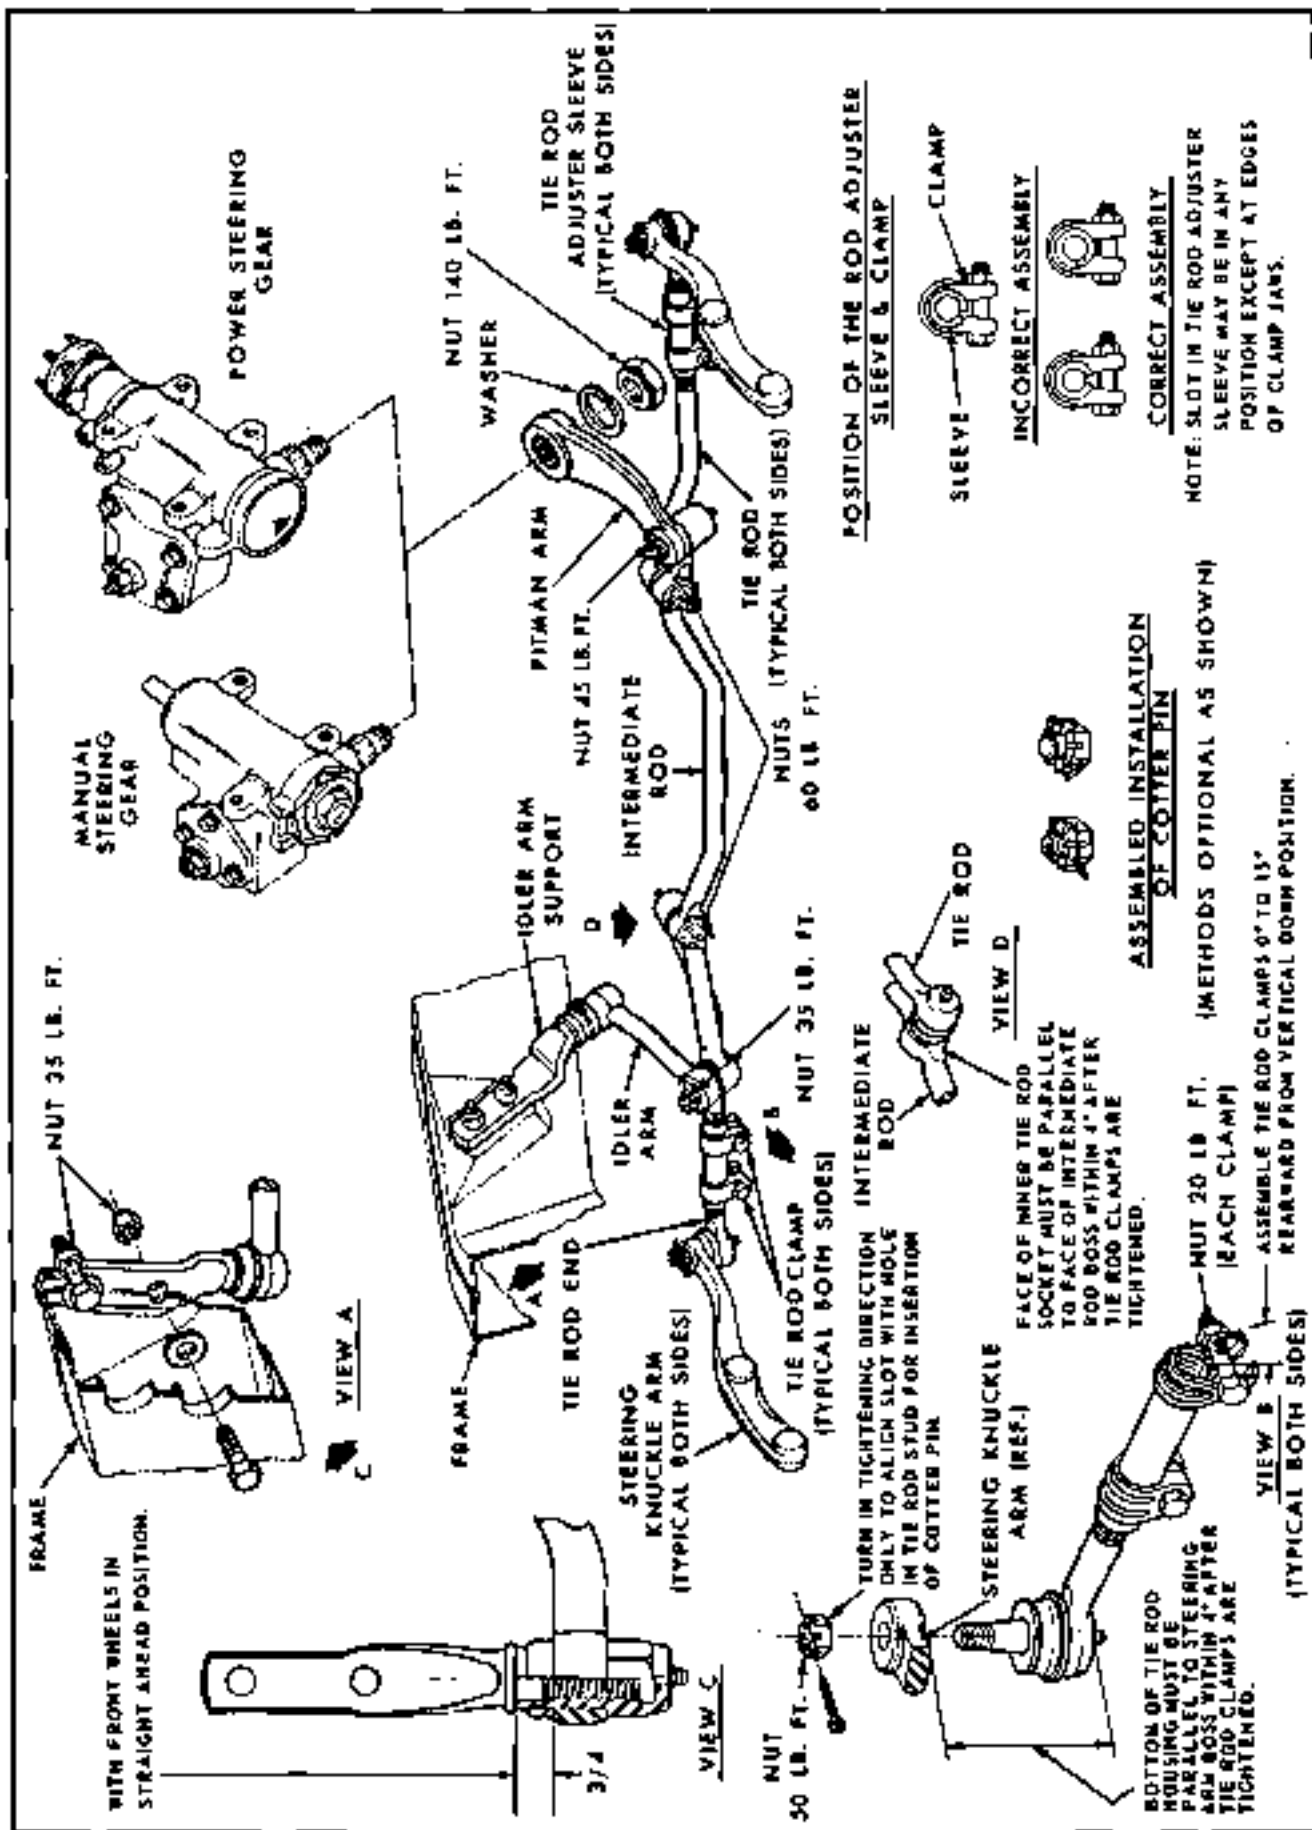
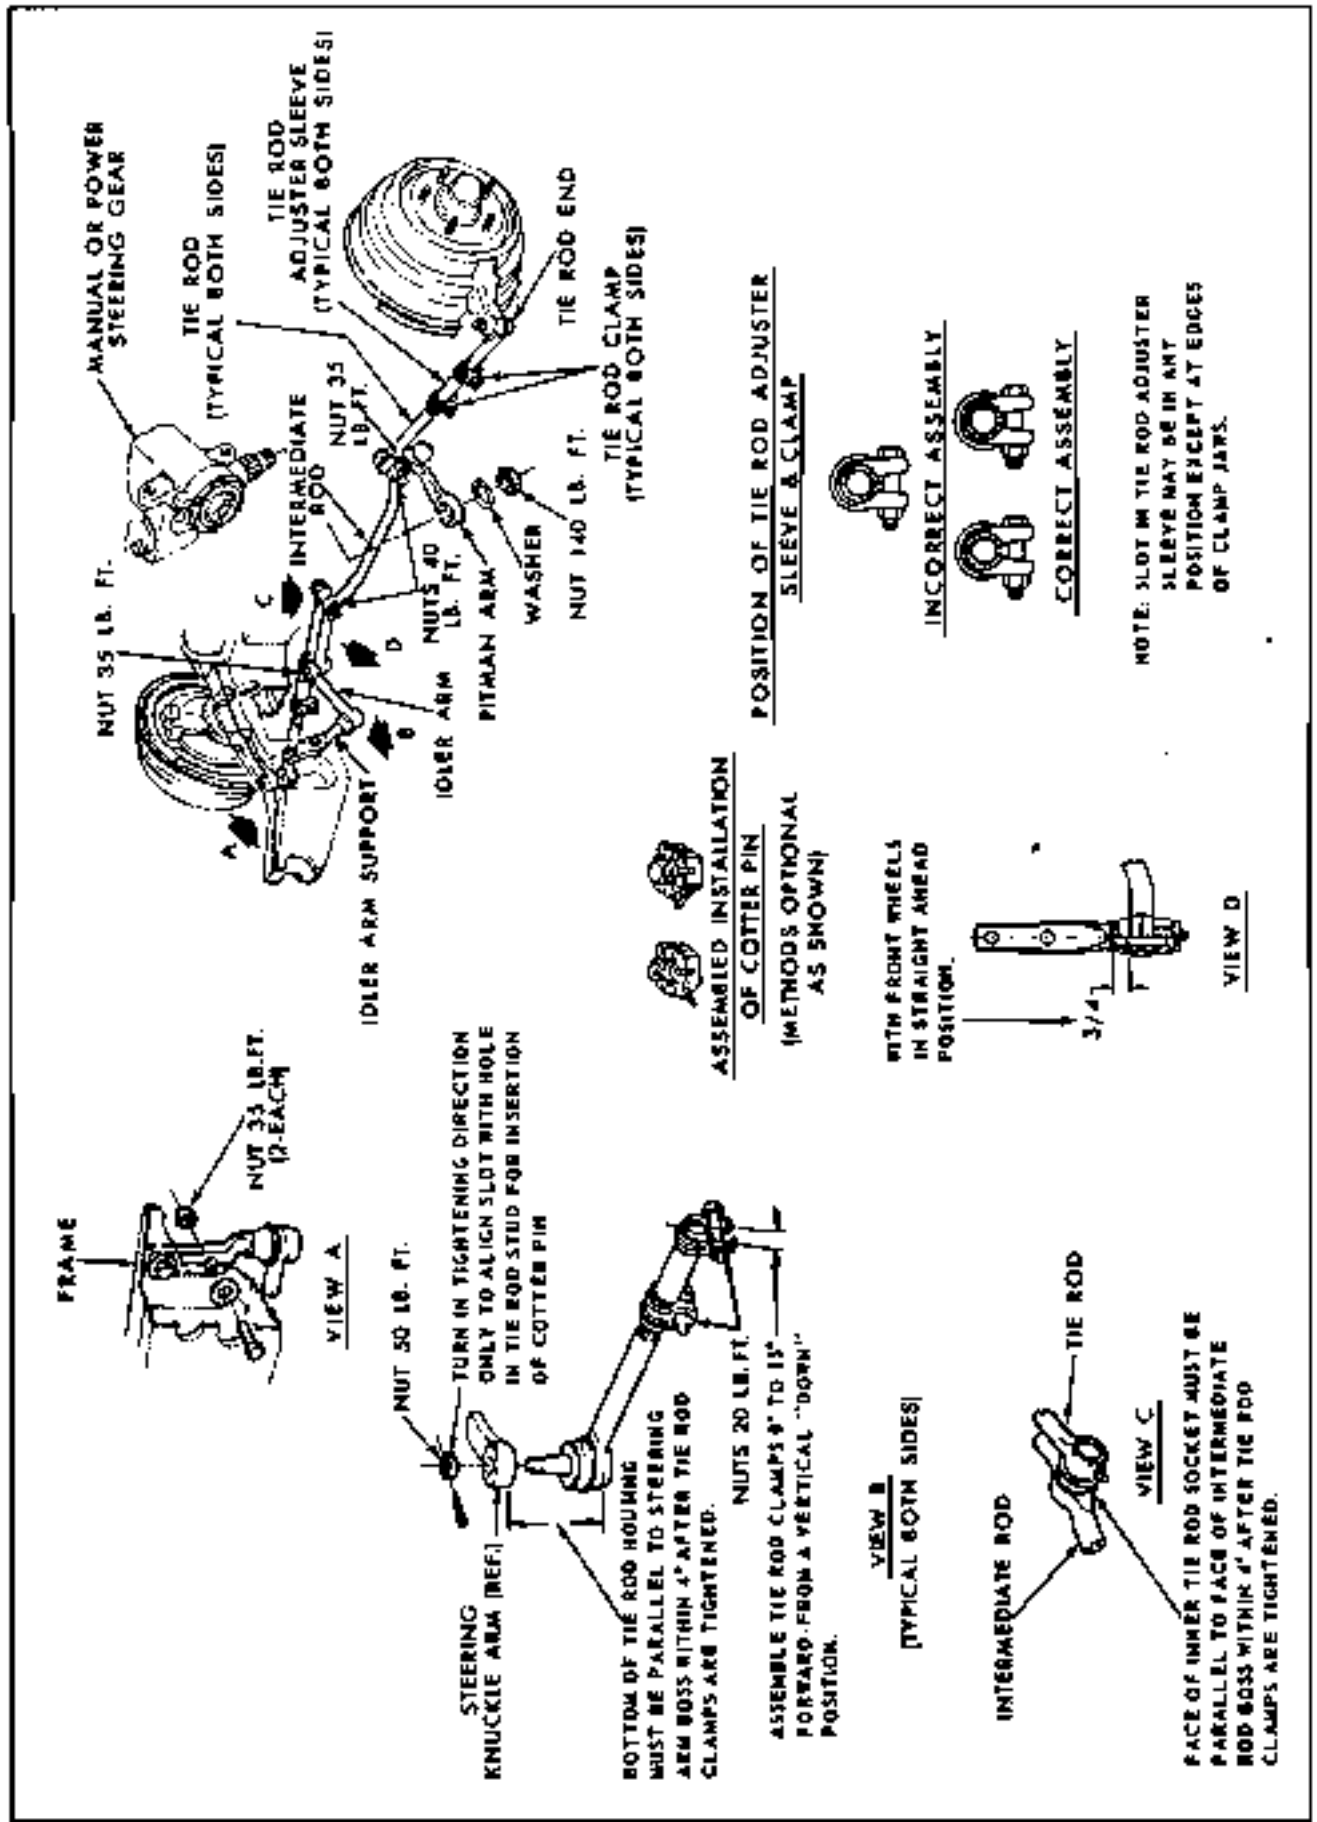
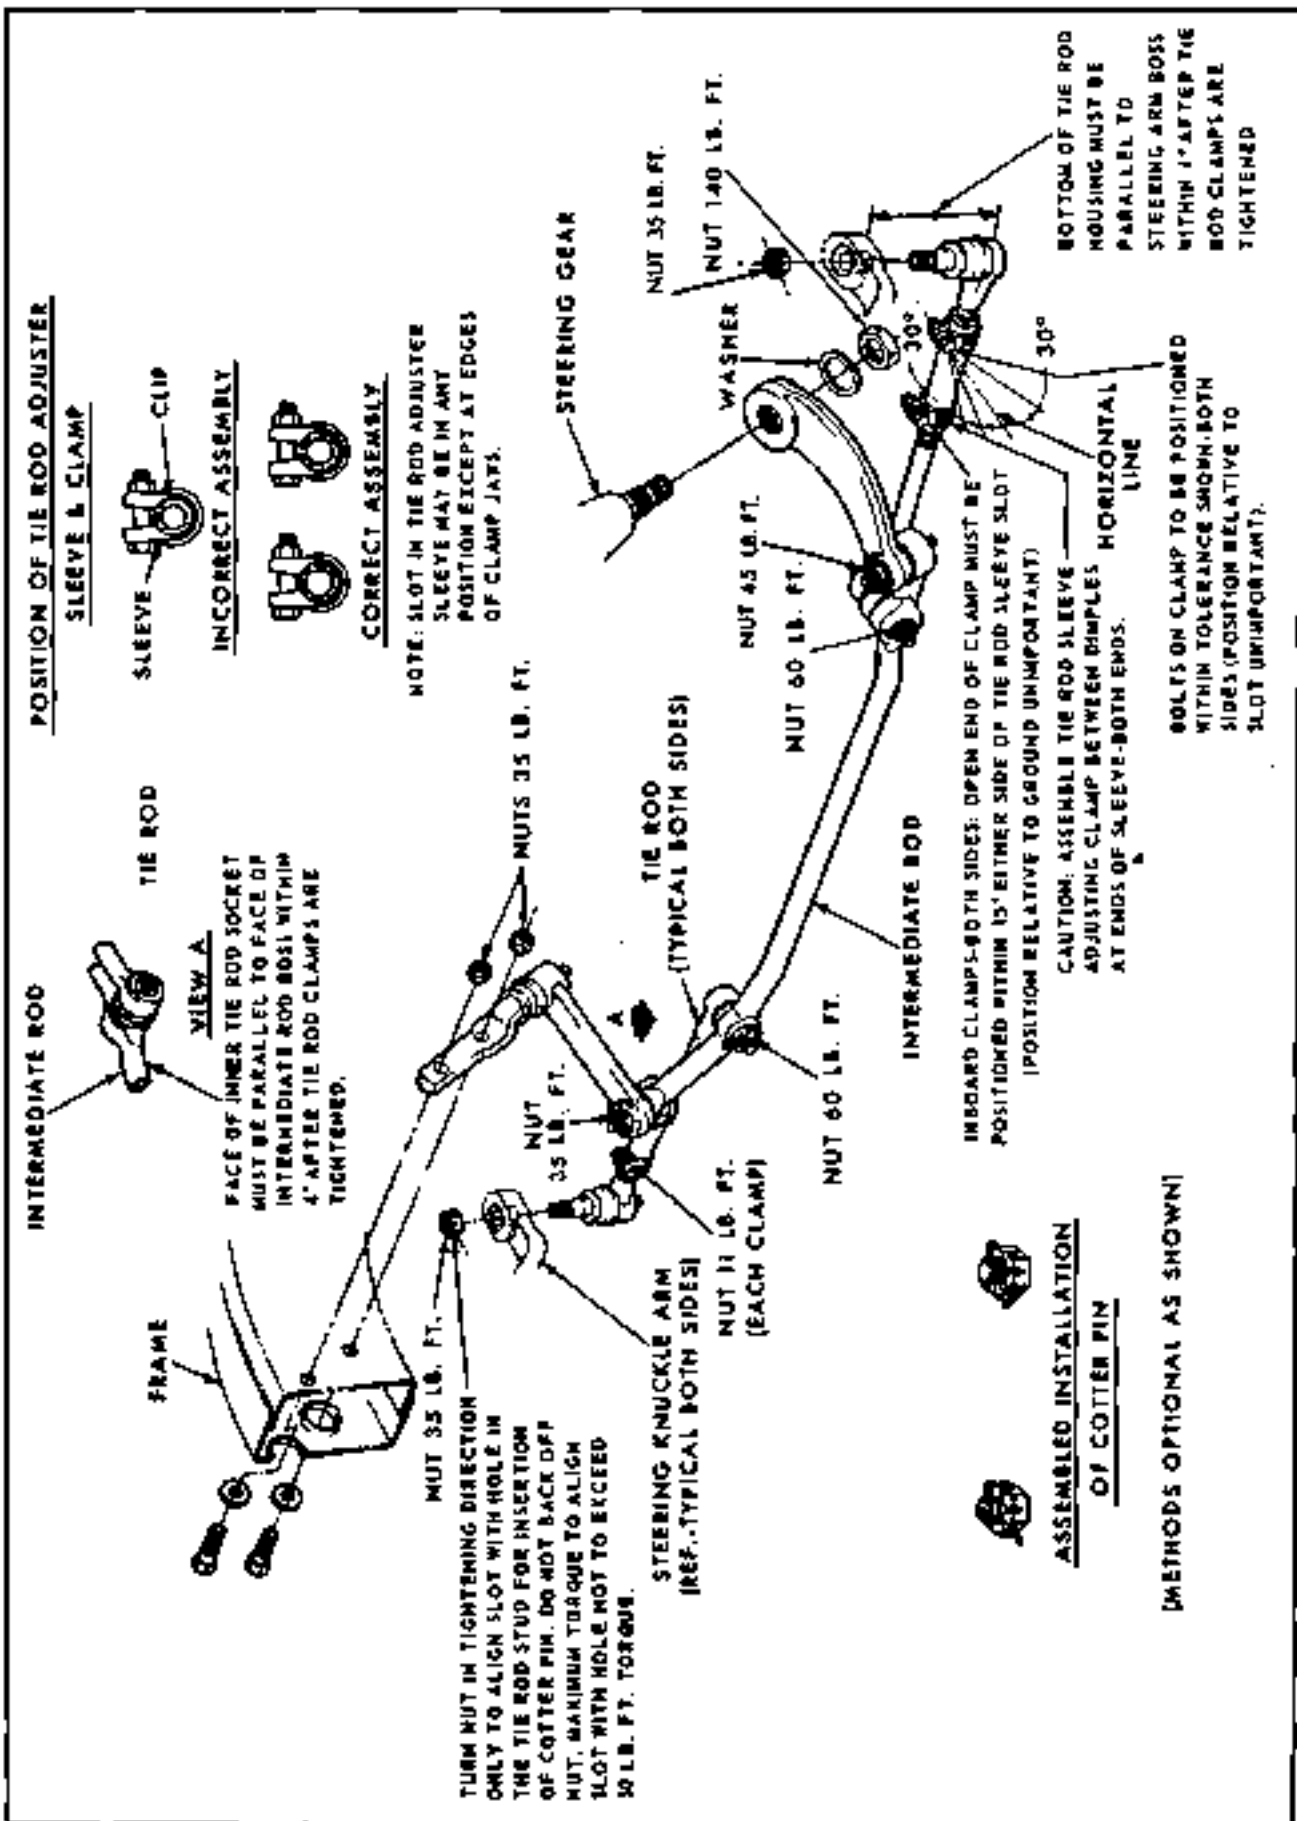

Fig. 9-43 Pontiac Steering Linkage
Fig. 9-44 Tempesi and Grand Prix Steering Linkage
Fig. 9-45 Firebird Steering Linkage
1. Steering intermediate rod may be removed from both the tie rods, pitman arm and idler arm by removing the ball shaft nut (Fig. 9-43, 9-44 and 9-45).
5. When new tie rods or tie rod ends are installed, it is necessary to check toe-in. Check clamp bolts on tie rod adjuster sleeve assembly for tightness, 17 lb. ft. torque. Assemble tie rod clamps as shown in Fig. 9-43 for Pontiac, Fig. 9-44 for Tempest and Grand Prix, and Fig. 9-45 for Firebird models.
1. Raise car and disconnect steering intermediate rod from pitman arm (Fig. 9-43, Fig. 9-44 and Fig. 9-45), using tool J 5504-1.